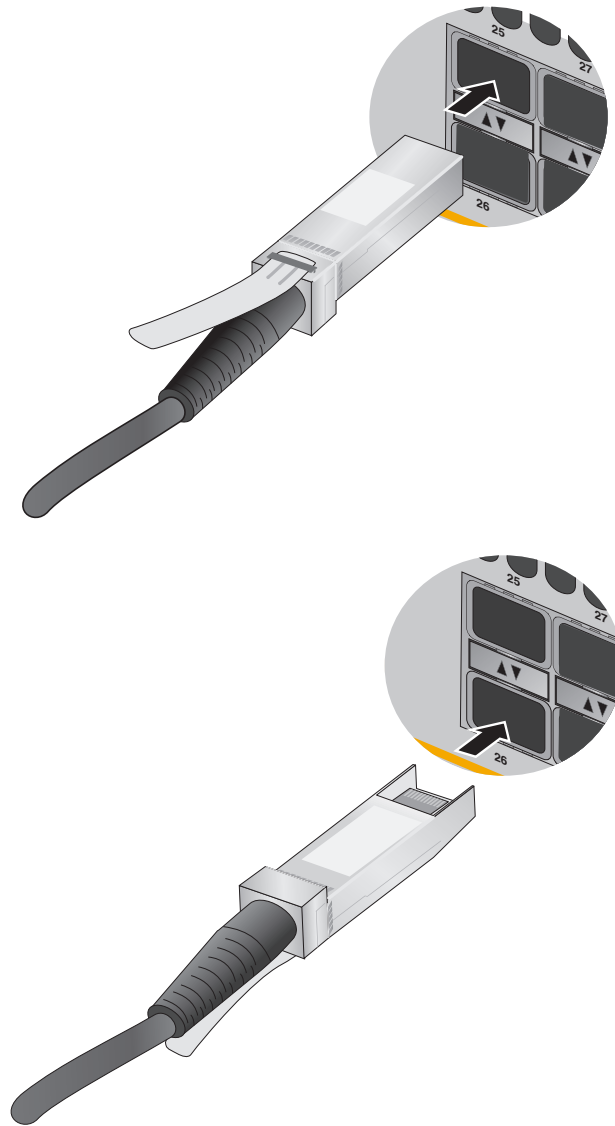

Figure 64. Installing SP10TW Cables
3. To install the transceiver in a port in the top row, position the transceiver with the Allied Telesis label facing up. To install the transceiver in a port in the bottom row, position the transceiver with the label facing down. Refer to Figure 64 on page 179.